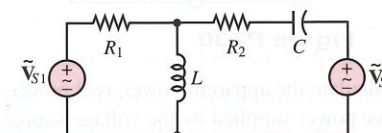

Figure P7.27
7.27 In Figure P7.27, assume $\tilde{V}_{S1} = 10\angle -\pi/4 \text{ V rms}$, $\tilde{V}_{S2} = 12\angle 0.8 \text{ V rms}$, $R_1 = 2 \Omega$, $R_2 = 3 \Omega$, $X_L = 4 \Omega$, and $X_C = -4 \Omega$. Find: